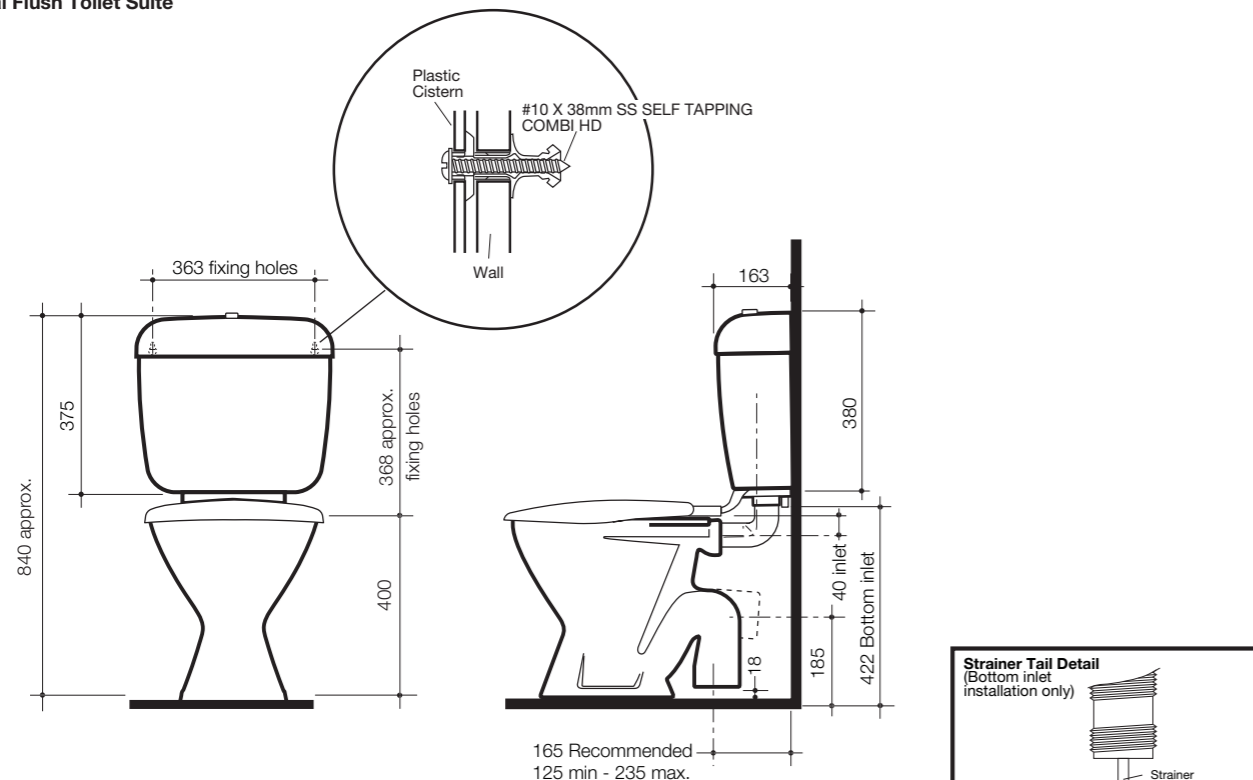

Fig. 5
- 1- Position cistern and mark fixing holes as specified on the finished wall, as detailed in Fig 5.